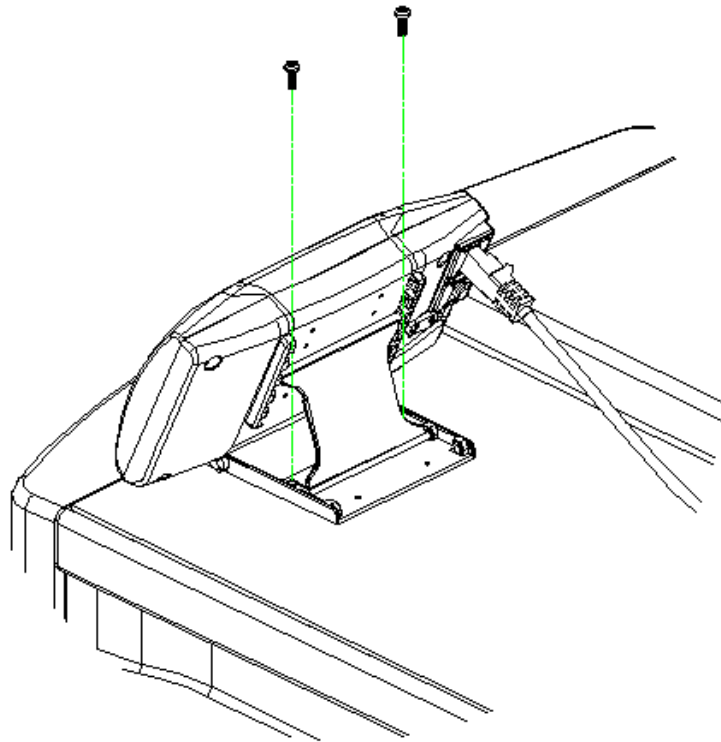

Figure 3.2.4
- Secure the bracket to the enclosure with two screws supplied with the generator. Reference Figure 3.2.4.